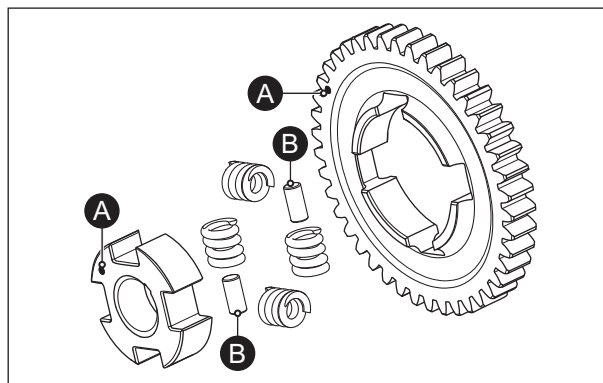

Fig. 3.160
While reassembling the gear balancer shaft ensure that the dots (A) on the race balancer gear driven and gear balancer driven should be aligned and the pin balancer shaft driven (B) should be placed opposite to each other. (Fig. 3.160)